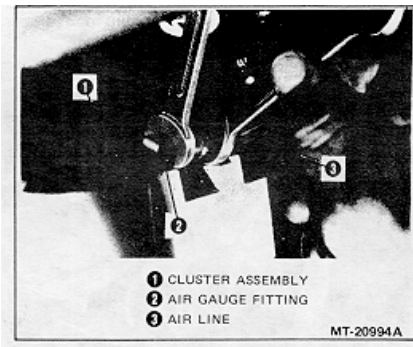

Figure 5 - Removing Air or Vacuum Lines
5. Disconnect air or vacuum lines from fittings (Figure 5) on back of air or vacuum gauges. Two air pressure gauges are used on vehicles with air brakes. One vacuum gauge is used on vehicles with vacuum boosted hydraulic brakes.
4. Mechanical type air gauges (Figure 9) are front serviceable after removing air line fittings from rear of cluster (Figure 5).